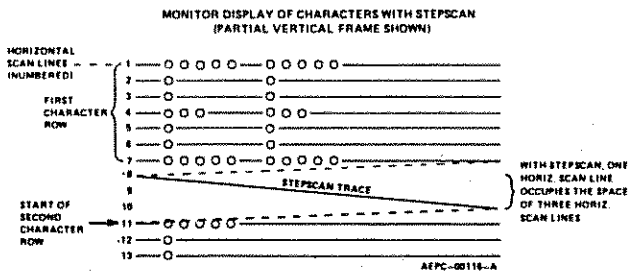

Figure 17. Displaying Characters on a Monitor with StepScan
#### STEPSCAN FUNCTION (Reference Figure 17)
StepScan is useful when it is desired to display more rows of data characters than the existing "alphanumeric video" signal format will permit. A typical display consists of 240 horizontal scan lines which form character rows of data. Between each character row is a desired amount of blank spacing which is made up of horizontal scan lines without video information. By accelerating the vertical deflection between character rows, one (1) horizontal scan line could provide the spacing between rows that would normally be occupied by three (3) horizontal scan lines (see Figure 17). This would reduce the number of blank horizontal scan lines between character rows from three (3) down to one (1). However, the physical spacing between the character rows would not change. Since two (2) horizontal lines are saved between each row, a 24 row format will accumulate 48 unused scan lines. These 48 extra scan lines will reside at the bottom of the display since the CRT still scans a total of 240 horizontal lines. Therefore, the 48 additional lines at the bottom can also be used to display data. This means an additional six (6) rows of characters can be displayed. (For example, 7 lines for char. height plus 1 line for spacing = 8 lines per char. block. 48 unused lines divided by 8 char. block lines = 6 additional rows.)